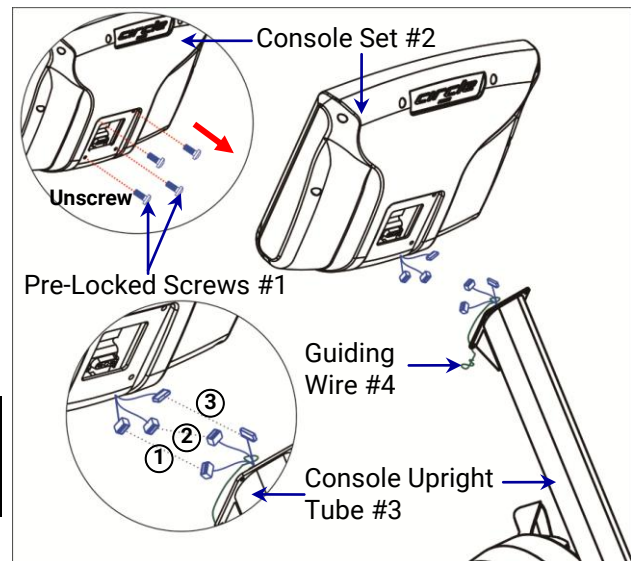

Fig 2.5-7A
- 1) Unscrew the (4) **Pre-Locked Screws #1** on the **Console Set #2**. (Fig 2.5-7A)
- 2) Connect the **Connectors** (①, ②, ③) from the **Console Upright Tube #3** to the corresponding connectors located in the **Console Set #2**. (Fig 2.5-7A)